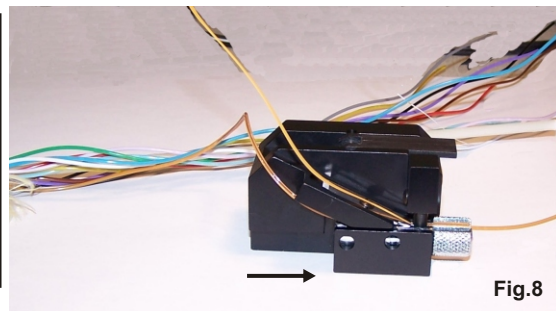

Fig.8
7. Pull the tool toward you to engage the blade and shave a window in the buffer tube (Fig.8). A window opening should immediately develop in the tube. Open the tool and re-seat the blade per note 4, if the shave depth appears ineffective.